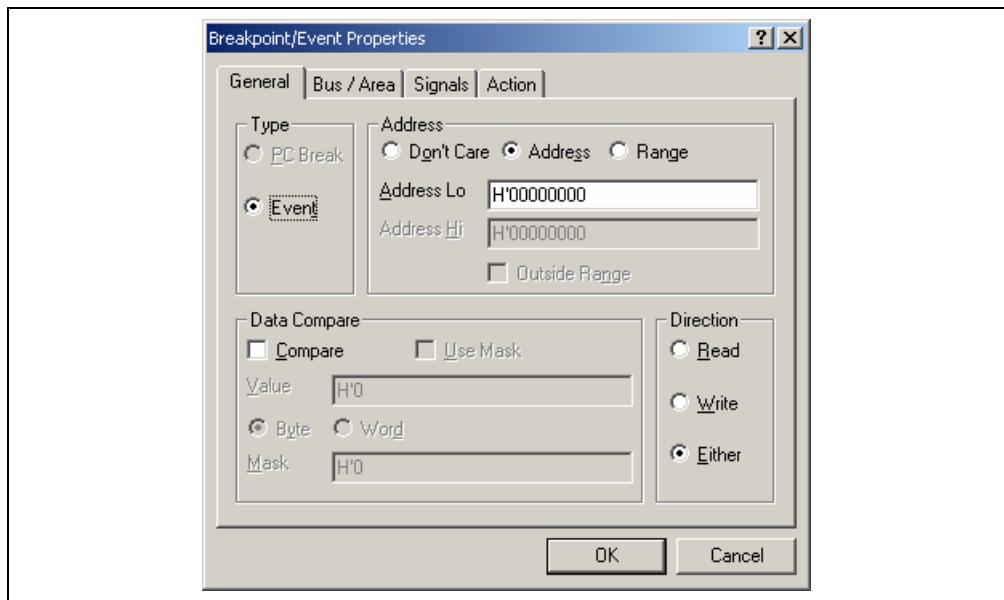

Figure 6.42 [Breakpoint/Event Properties] Dialog Box
- (2) Register the address range for trace acquisition as an event condition. Click the [Add...] button in the [Trace Events] group box on the [General] page to display the [Breakpoint/Event Properties] dialog box (see figure 6.42, [Breakpoint/Event Properties] dialog box).
- (3) Click the [Range] radio button in the [Address] group box on the [General] page of the [Breakpoint/Event Properties] dialog box. Use the [Locals] window to refer to the address on the line where variable *a*, which is defined within the *tutorial* function, is allocated (**H'00FFEF80** in this example) and enter this address in the [Address Lo] edit box. Then enter an address, which is H'27 added to that entered in the [Address Lo] edit box (**H'00FFEFA7** in this example), in the [Address Hi] edit box. This procedure sets the memory range for variable *a* of the *tutorial* function.
- (4) Click the [Write] radio button in the [Direction] group box to set a write cycle for the specified range. This completes the setting of a memory range. Click the [OK] button to close the [Breakpoint/Event Properties] dialog box.